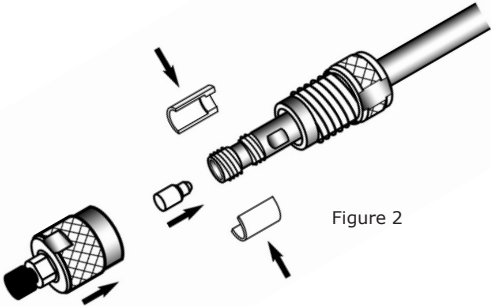

Figure 2
- 2. Place 2 split collets around the neck of the cartridge as shown in Figure 2.